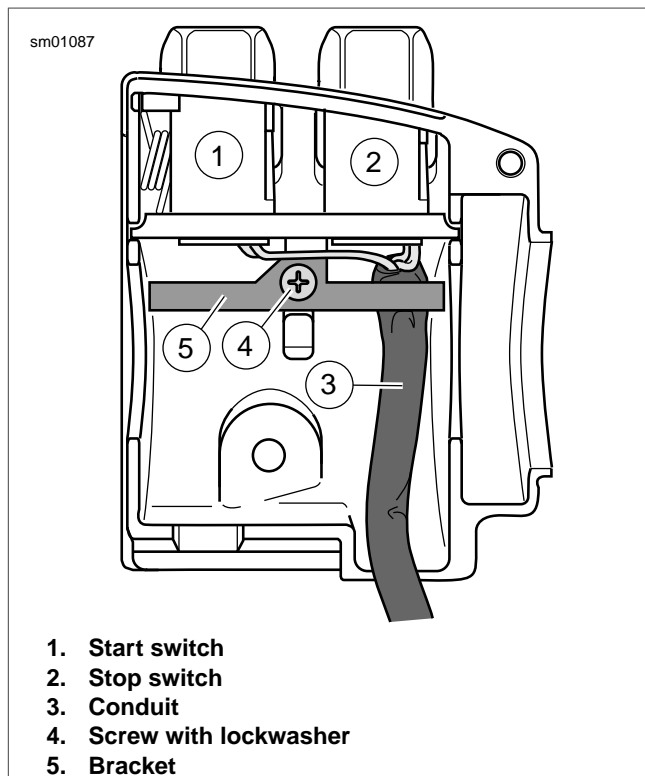
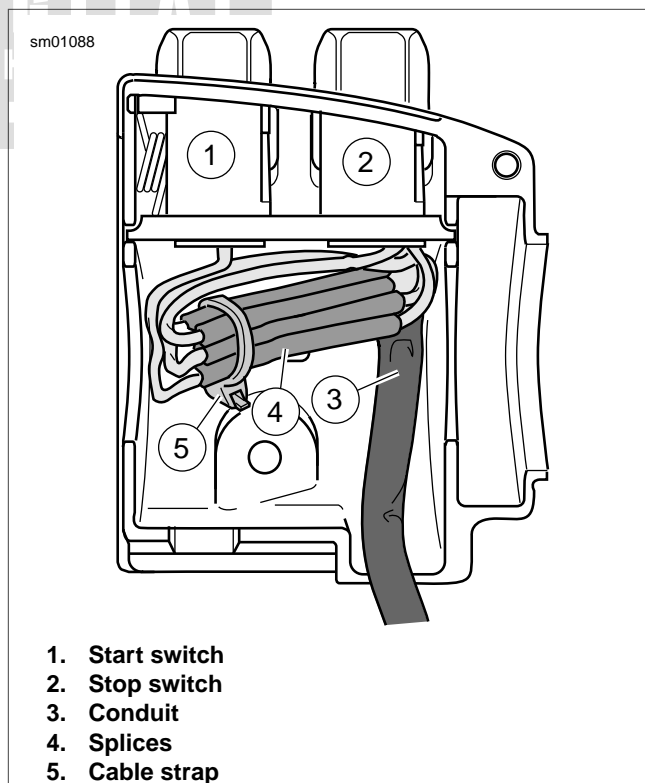

Figure 7-91. Upper Housing Without Splices
Figure 7-92. Upper Housing With Splices
1. See Figure 7-91. From inside the switch housing, remove the screw with lockwasher (4) to release the bracket (5). Remove the bracket and switch assembly from the housing.
2. Move cable conduit (3) from beneath wing of bracket. Cut wires 0.25 in. (6.4 mm) from old switches (1, 2). Discard old switch and bracket assembly.
3. Slide conduit forward over cut ends of switch wires and cut off 0.5 in. (12.7 mm) of conduit (3) material. Push conduit back to access switch wires.
4. See Figure 7-92. Separate **new** engine stop switch (2) and engine start switch (1) wires into two bundles.
6. Loop switch wires so that spliced lengths are positioned as shown in Figure 7-92. Route wires downstream of splices beneath wing on engine stop switch side of bracket as shown in Figure 7-91.
7. See Figure 7-92. Install a **new** 7.0 in. (177.8 mm) cable strap (5) beneath wing on engine start switch side (1) of bracket and capture wire splices (4).
9. See Figure 7-91. Install screw and lockwasher (4) to secure bracket (5) inside housing. Verify that wing on engine stop switch (2) side of bracket captures edge of conduit (3) as shown.